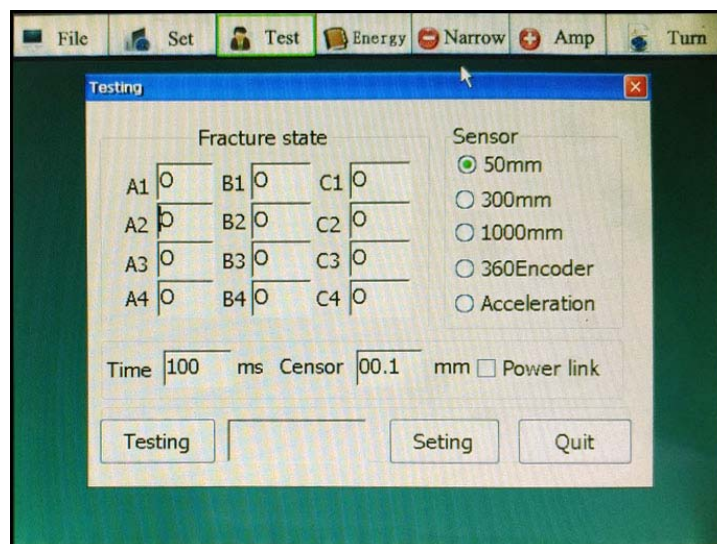

Figure 27
1. Click Auto Test: Auto test refers to measure the close, open, bounce time, bounce times, 3 phase synchronism, open distance, average speed and etc parameters of metal contactors. As below figure 27: